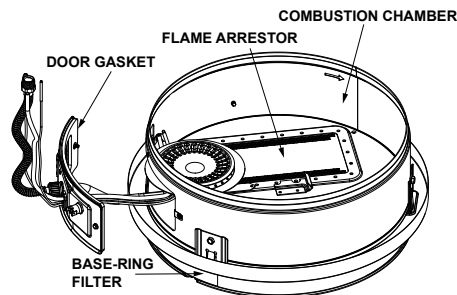

FIGURE 38.
1. At least annually, check the base-ring filter (Figure 38) for any dust or debris that may have accumulated on the filter screen. **NOTE:** If the water heater is located in an area that is subjected to lint and dirt, it may be necessary to check the base-ring filter more frequently.
2. Use a vacuum cleaner/shop vac to remove all loose debris in the combustion chamber (Figure 38). Use compressed air to clear any dust or debris that may have accumulated in the flame-arrestor.